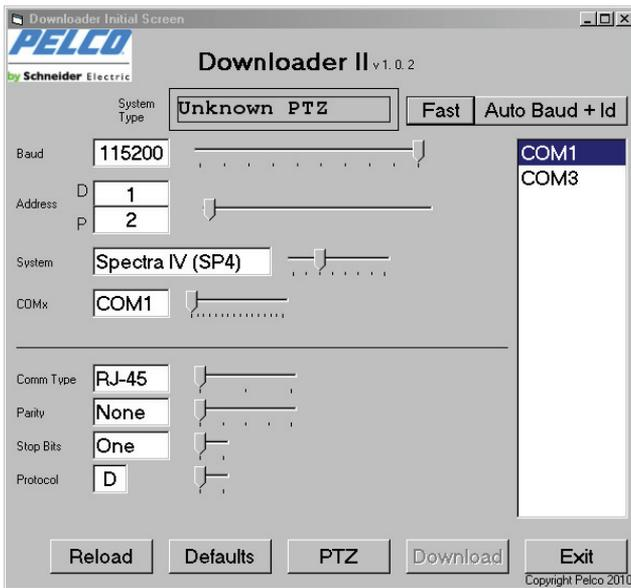
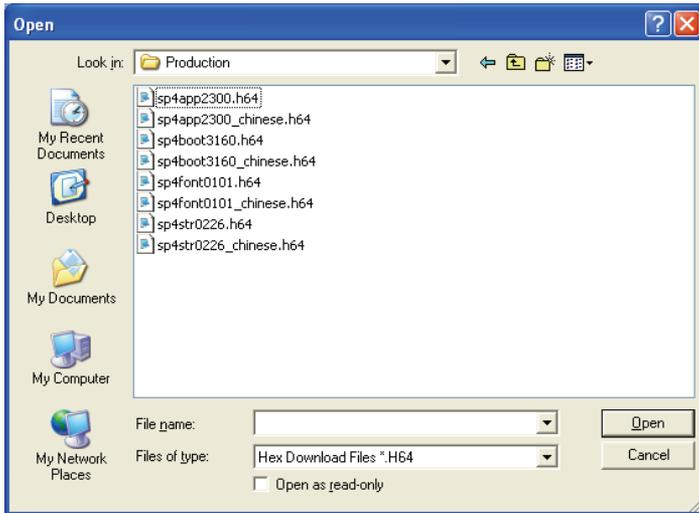

Figure 5. Downloader II Window
Figure 6. Browsing for a Download File
3. After connecting to the unit, select the Download button located at the bottom of the Downloader II window (refer to Figure 5). The Open window appears (refer to Figure 6 on page 12).